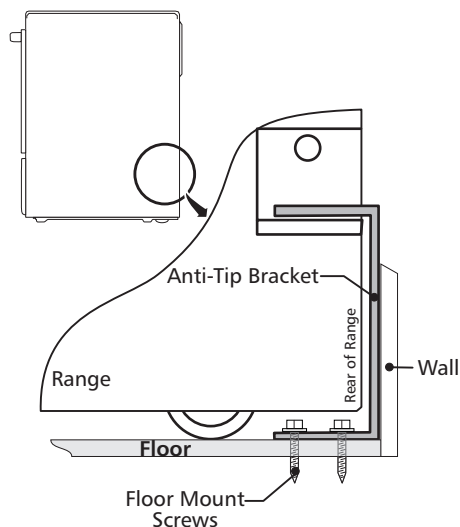

Figure 22
6. Slide range into place making sure structure of the range is trapped by the anti-tip bracket (Figure 22). Lower the range by adjusting the 4 leveling legs until the underside of the cooktop is sitting level on the countertop. Refer to "Leveling the Range" section.